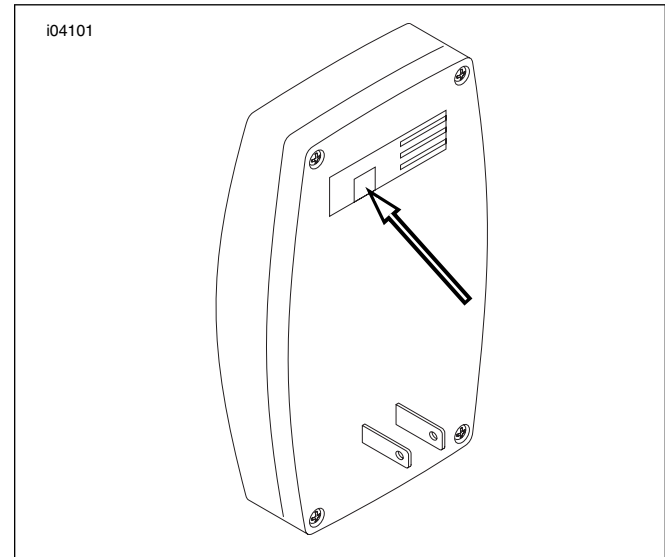

Figure 8-21. Garage Door Opener Receiver, Back View
7. See Figure 8-21. Plug connector on Harley-Davidson garage-door opener receiver wires into back of Harley-Davidson garage-door opener receiver.